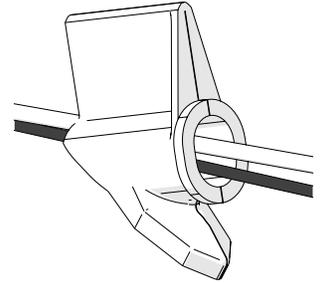

Fig. 19 - Loom installation tool
1. Rout the cable/tubes through the loom installation tool and clip shut (*Fig. 19*).